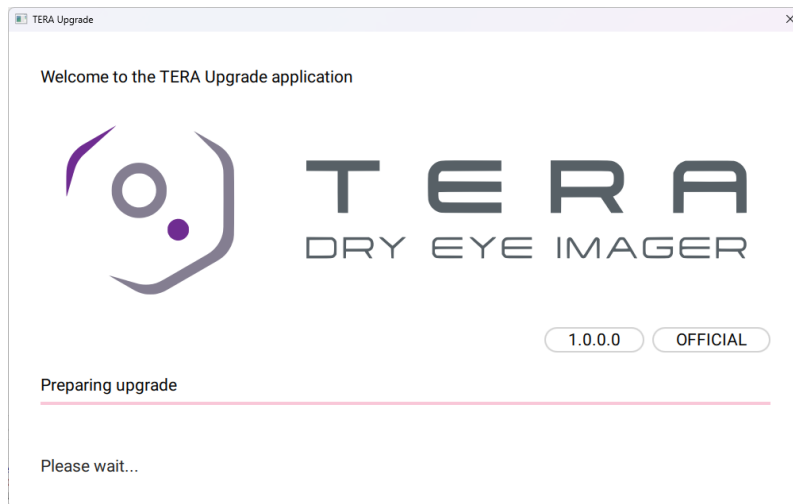

Figure 15.9: Upgrade progress
10. After tap on  button, the upgrade procedure starts. The device is rebooted and the upgrade progression is shown, see Figure 15.9.